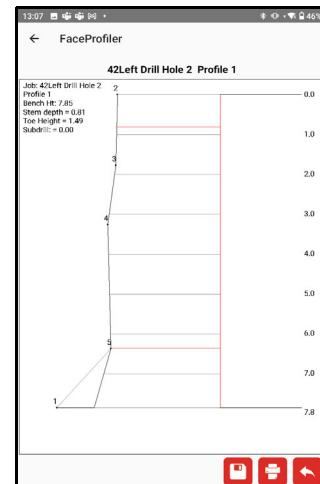

Figure 52
- Tap [Plot] to view the calculated data as a graphic plot (Figure 52, Page 40).
- Tap [Plot] to view the calculated data as a graphic plot (Figure 52, Page 40)
2. Tap the [Plot] button. Figure 52 shows a sample plot.